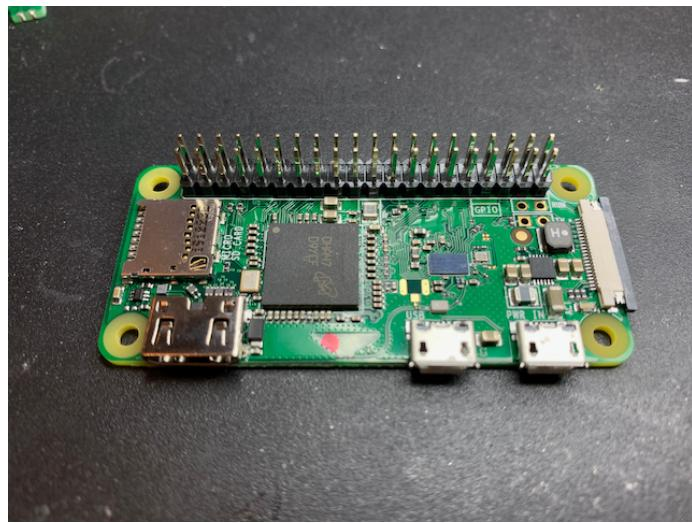

Figure 1: Raspberry Pi Zero W with correctly oriented header block
1. If you do have a Raspberry Pi Zero W without headers populated, solder a header block onto the Raspberry Pi Zero W *ensuring they are correctly oriented as shown in Figure 1: Raspberry Pi Zero W with correctly oriented header block!*